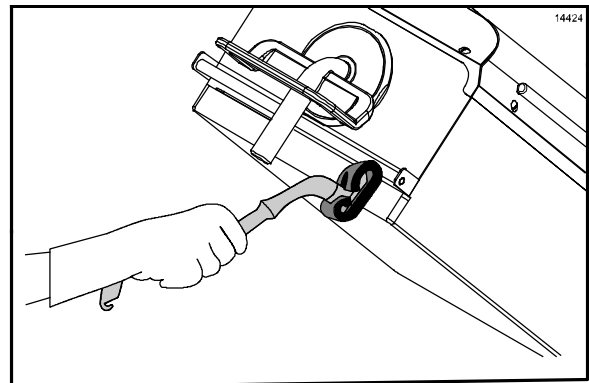

Figure 96
23. Using the Kay Grill Cleaning Pad Holder, scrub the front side of the platens from the right platen to the left platen. (See Figure 96.)